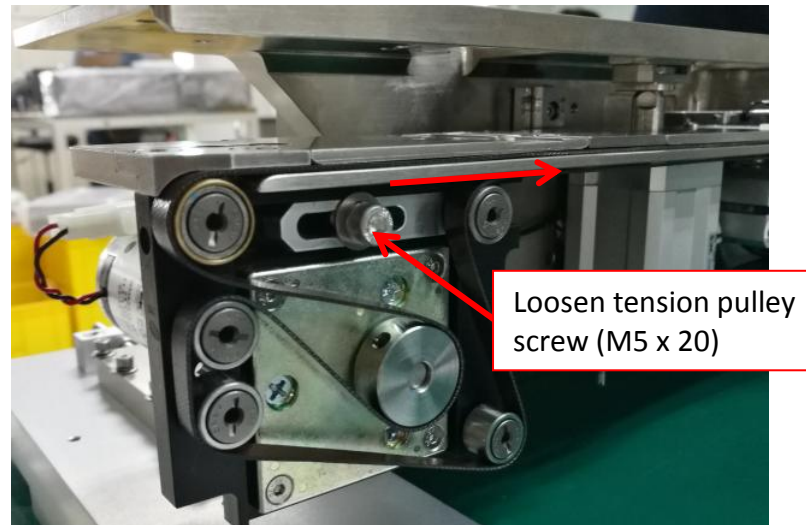

Figure 3 Conveyor Belt Removal
5. Loosen Tension Pulley Screws (M5 x 20) & remove Conveyor Belt as shown in Figure 3.